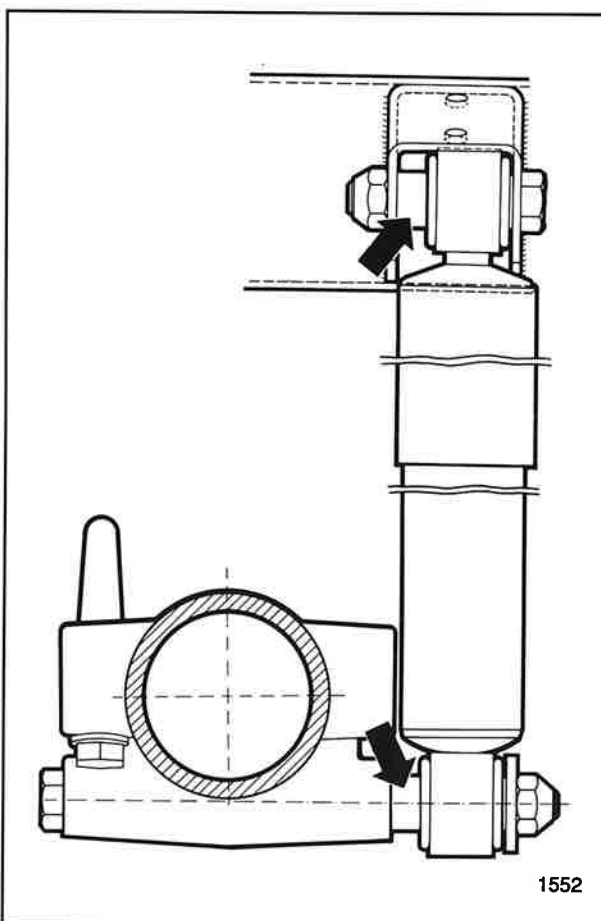

Fig. 19
- Smear thread and shaft of lower shock absorber screw with Loctite Anti-seize and mount acc. to fig. 19. Move half-axle by lifting at wheel drive into extended position and tighten shock absorber to 200 Nm.